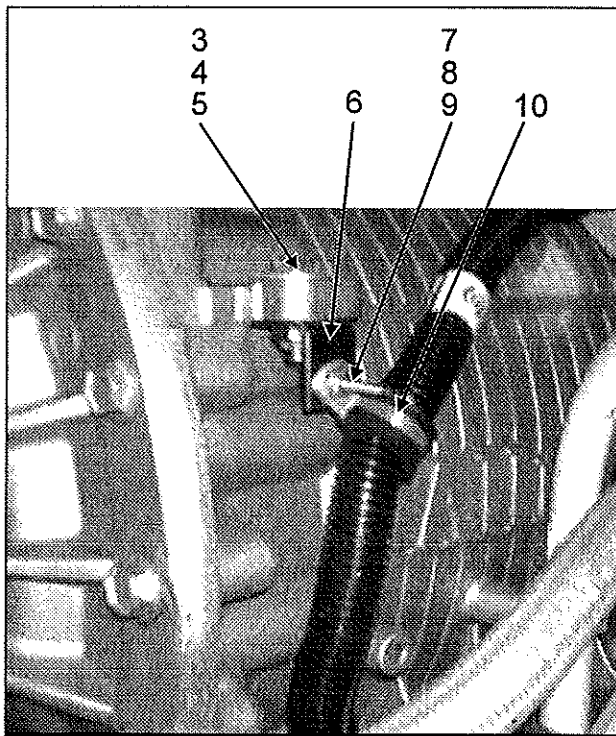

FIGURE 3
6. Install bracket (6) on transmission housing lug (from underside) using bolt (3), washer (4) and nut (5) (**Figure 3**). Secure main harness to bracket using retaining clip (10), screw (7), lock washer (8) and nut (9).